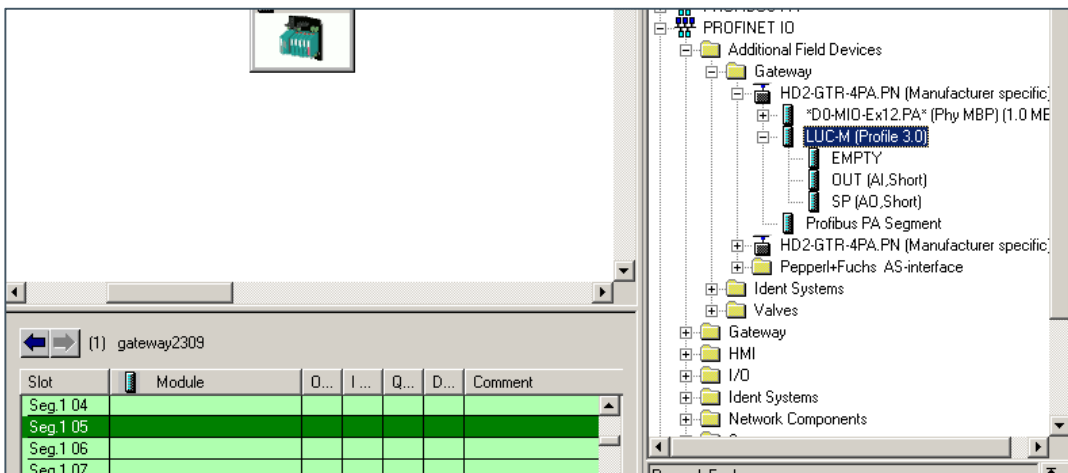

Figure 30: Adding the Ultrasonic Level Sensor to PROFINET gateway
- 2) For the example 1 that is used so far, select the **Seg.1 05** (segment 1 slot 05) at the left bottom table. To add the Ultrasonic Level Sensor to **Seg.1 05**, click **PROFINET IO > Additional Field Devices > Gateway > HD2-GTR-4PA.PN > LUC-M (Profile 3.0)** at the right side of the window (see: Figure 30: Adding the Ultrasonic Level Sensor to PROFINET gateway).